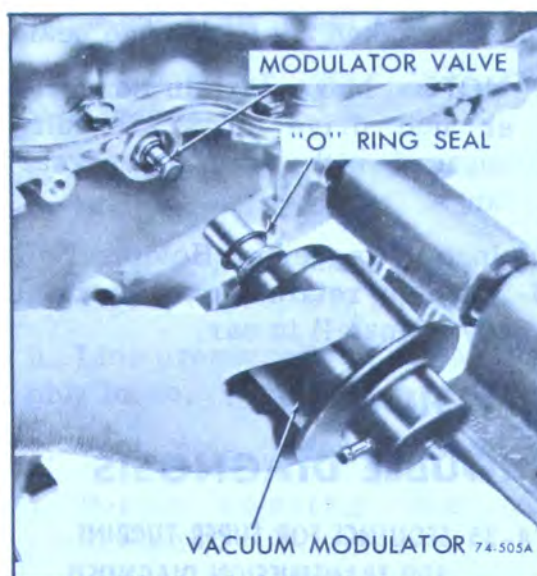

Figure 74-787
1. Install modulator valve into the case, stem end out. See Figure 74-787.